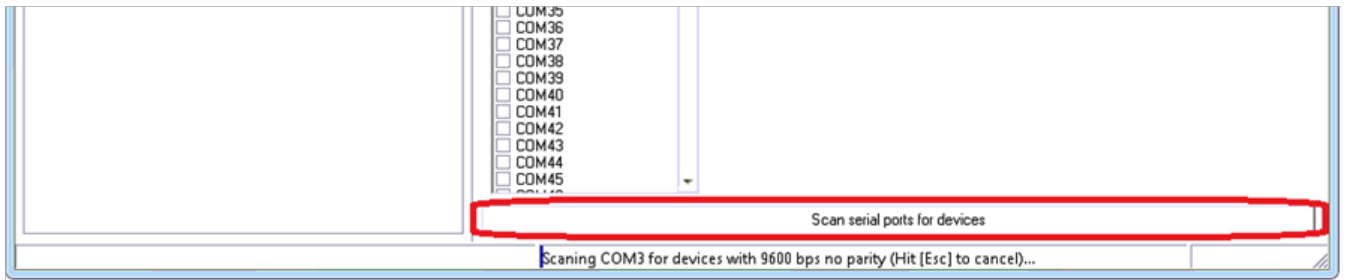

Figure 9: Selecting “Scan serial ports for device”.
9.- Click on the button “**Scan serial ports for devices**”. The window status bar indicates the progress of the detection process of the transducer. (**Figure 9**)